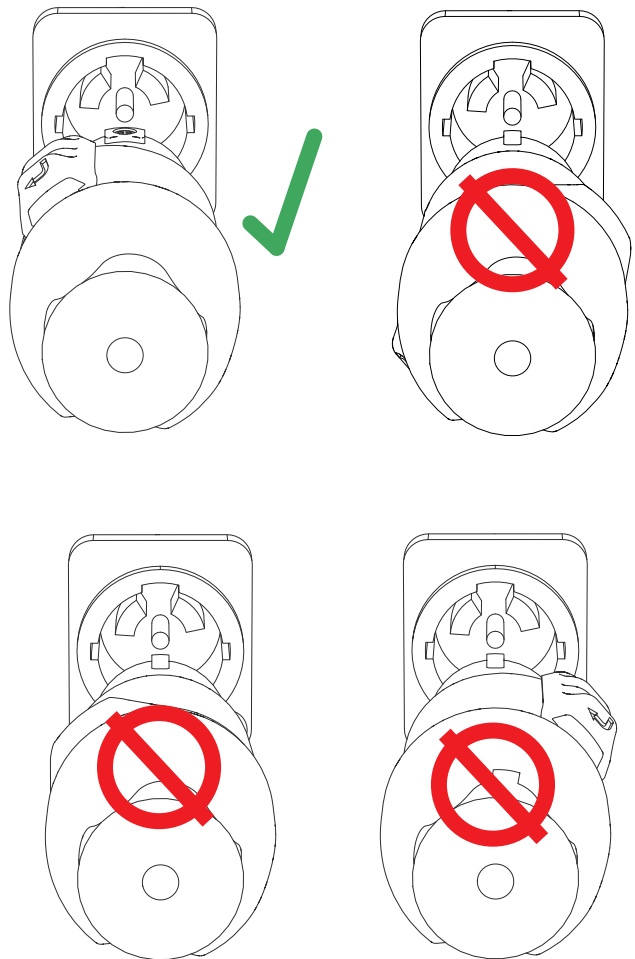
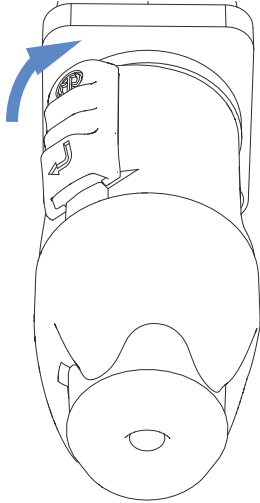
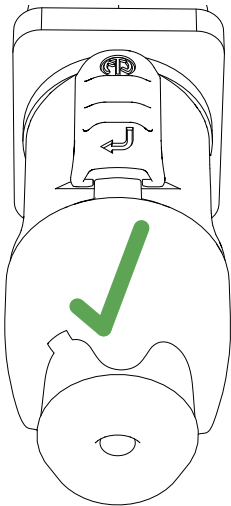

Figure 55: Proper PowerCON Connector Orientation
Figure 56: Rotate the Connector to Lock
Figure 57: Locked Connector Position
After inserting properly as indicated in Figure 55 (top left), and Figure 56 on page 43, twist the cable connector clockwise to lock (Figure 57 on page 43).
**NOTE:** The proper twist-lock is achieved when the silver-colored tab is in the position shown in Figure 57 and an audible click is heard.